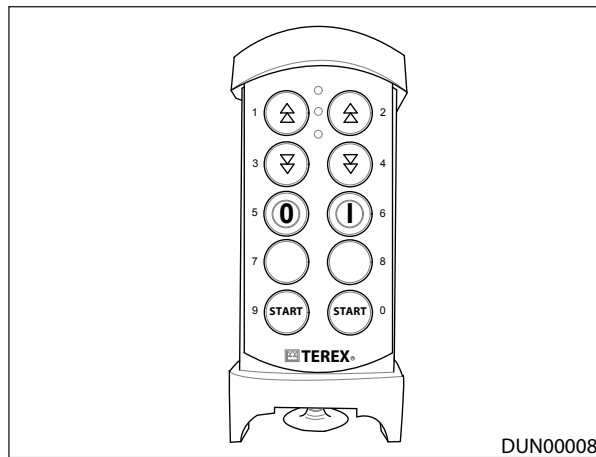

Figure 5.1 - Radio Tracking Control Unit
7. Operate the track buttons on the radio tracking control unit to move the machine off the low loading trailer, Ref: Figure 5.1.